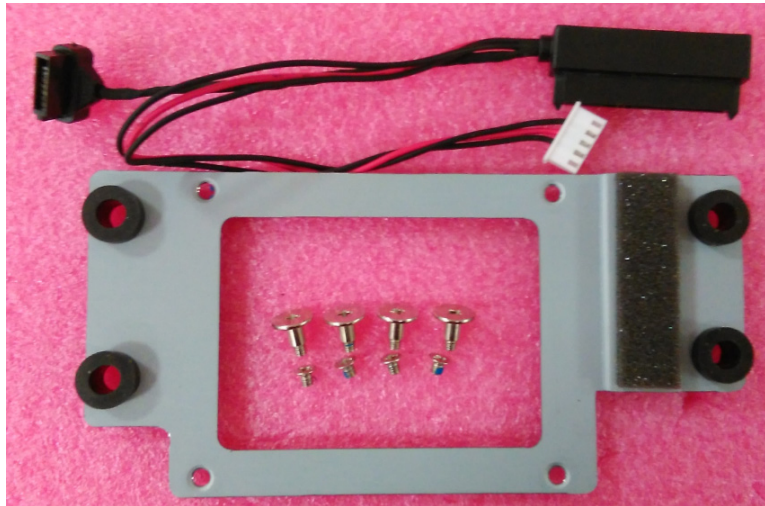

Figure 2.9 HDD Module
2. Get SATA cable from the accessory box and connect it to the SATA HDD. (See Figure 2.9)